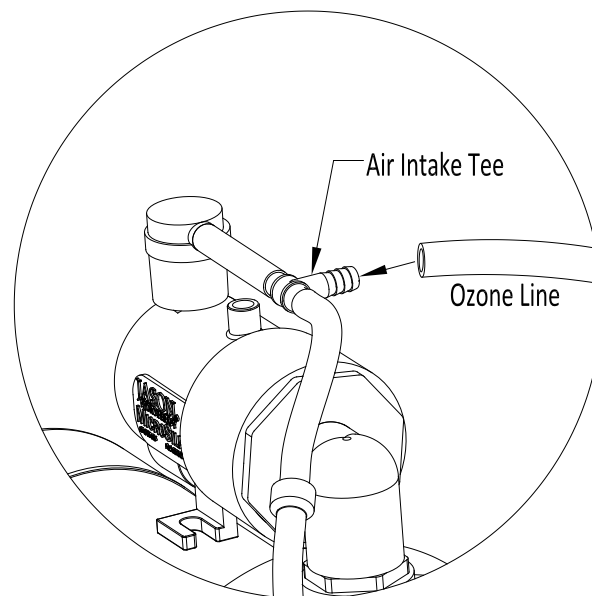

Figure 5
7. For a MicroSilk® only or MicroSilk®-Air bath (not MicroSilk®-Whirlpool), if an Automatic Ozone Sanitation System is installed, connect the ozone system tubing to the tee above the MicroSilk® Saturation Tank with the included clamps (**Figure 5**).